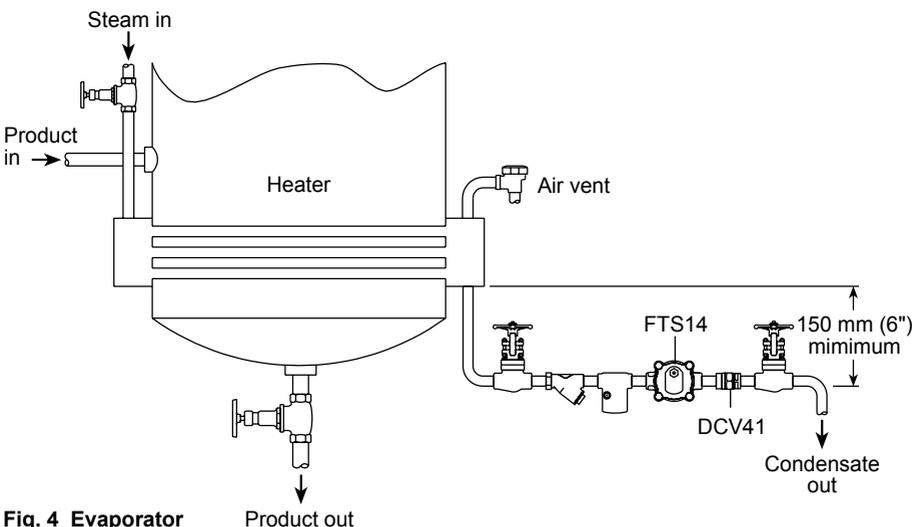

Fig. 4 Evaporator
- 3.7 Traps should be fitted below the outlet of the steam system with a small drop leg immediately preceding the trap - Typically 150 mm (6") see Figure 4. If no drop leg is allowed then it may be possible (under low load conditions) for steam to flow over the condensate in the bottom of the pipe and reach the trap.
- 3.8 Always fit a non-return (check) valve downstream of any steam traps which discharge into condensate return lines where back pressure is experienced. This is most commonly caused by a rising condensate line. The check valve will prevent the steam space flooding when the inlet pressure is reduced or the steam is shut off. Use a suitable valve such as the Spirax Sarco DCV41, see Figure 4.